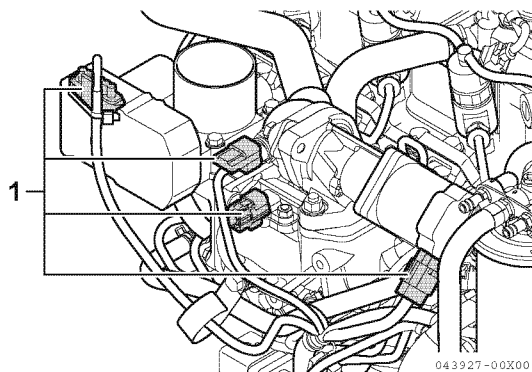

Figure 6-3
2. Disconnect the electrical wire from the glow plug, injector, intake throttle, EGR valve and sensors (**Figure 6-3, (1)**).